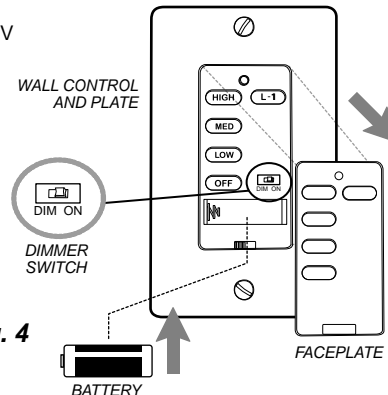

Fig. 4
- B. Setting the dimmer switch: Locate the dimmer switch above the battery compartment labeled "DIM" and "ON". Set dimmer switch to ON (DIM) position only if using incandescent bulbs. Set dimmer switch to OFF (ON) position if using LED or compact fluorescent bulbs. (Figure 4) **NOTE:** Most LED or compact fluorescent bulbs are not compatible for use with dimmer controls.
- E. Replace faceplate on wall control. (Figure 4)